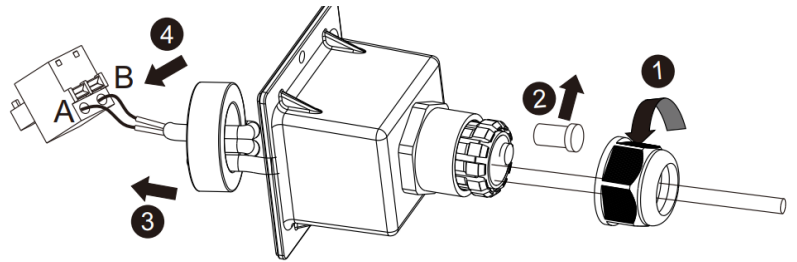

Fig. 30. Routing line through terminal
3. Release the forcing nut (Pos. 1) of the cable fitting at the terminal (See Fig. 30).